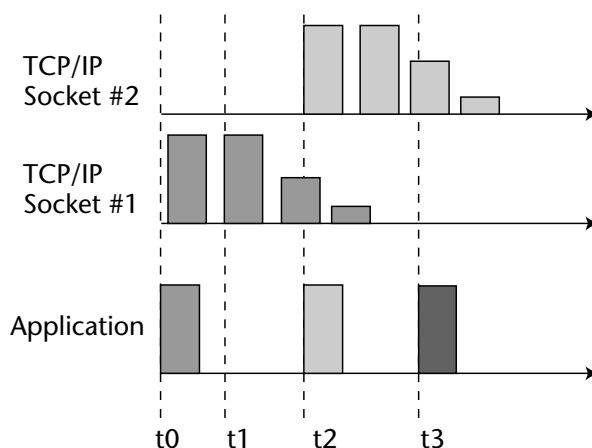

Figure 13.2 Network timeouts.
Figure 13.2 illustrates this problem on a time line. At time t_0 , the application sends a full buffer of data. With a slow network, TCP experiences timeouts waiting for an acknowledgment from the receiving end at time t_1 , and the TCP stack begins to fragment it into smaller packets for delivery, adjusting the transmit window to accommodate network latency and congestion. By time t_2 , TCP is still busy pushing data through the network, but the application has grown impatient. Having decided that the other end must have disconnected or otherwise dropped data, the application establishes a new socket connection (TCP socket #2) and retransmits the data. In reality, the original buffer of data was still in flight to the receiving end when the application timed out because the effective network latency was long compared to the application's choice of a reasonable timeout. The process may be repeated at time t_3 , and with sufficient network latency, the transmitting end may never successfully complete a round-trip data exchange with the far side because it times out (and stops waiting for a corresponding reply) before the request even crosses the network. Result: Your application appears to hang.
- The default timeouts used by TCP to determine when to retransmit a segment are also tunable. In the example in Figure 13.2, this timeout controls the window between times *t0* and *t1*. There are usually two parameters, also set in the OS, that control the initial timeout and the smallest value for the timeout. They may be set as low as 100 milliseconds, which is simply too short for applications that have clients connecting via America Online or other large ISPs. Consider cranking the initial and minimum timeouts up to 500 milliseconds. The parameters in Solaris are: